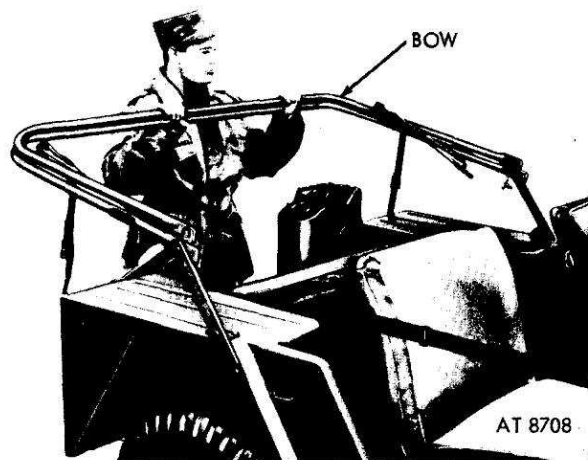

Figure 2-20. Raising the bows.
f. Stand at rear center of the vehicle and grasp bows: raise and pull backward to lock in position (fig 2-20).